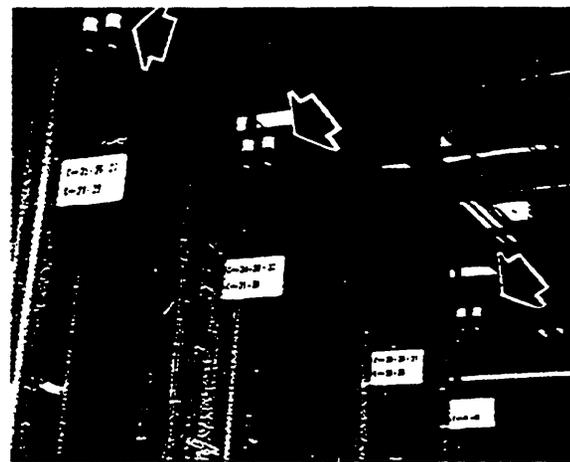

Figure 2. End View of Connector Bays to Show Location of Aisle Pilot Lamps.
1.08 Aisle pilot lamps (red or green) indicate the aisle in which the trouble is located- (See Fig. 2) Each aisle is usually equipped with two lamps mounted on the bay.